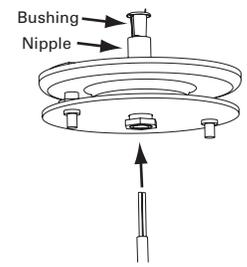

FIG. 1
1. Thread electrical cord attached to the fixture through the junction box cover assembly in the manner shown. Replace bushing in nipple if dislodged during cord insertion. **FIG. 1**